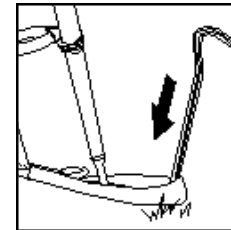

Figure 4A
7. Stake the tent down (figures 4A and 4B)!